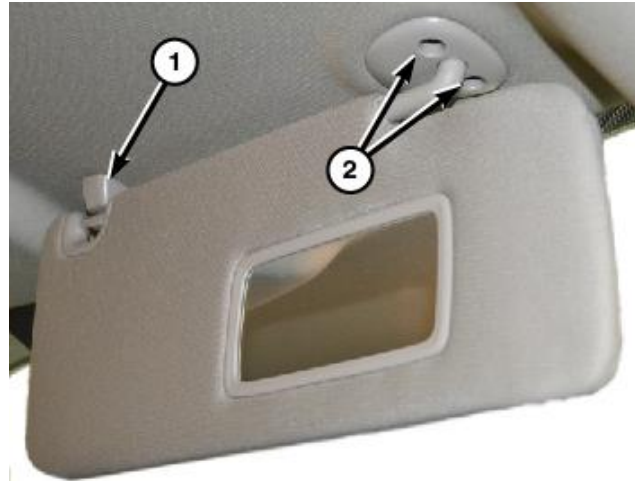

Figure 58 – Visors
27. Separate the visor from the support (1) then remove the screw and remove the visor support (Figure 58).
28. Remove the visor screws (2) then remove the visor (Figure 58).
48. Position the visor supports (1) onto the headliner and install the screws into the mounting clips (Figure 58).
50. Position the visor to the headliner and install the screws (2) that secure the visor to the roof panel. Tighten the screws to 6 N·m (53 in. lbs.) (Figure 58).